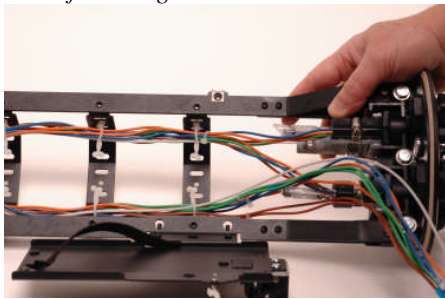

Figure 22
9.1.2 Open up the hinge tray storage plate and route all fiber bundles in a counter clockwise direction securing the bundles as you go using the twist loks supplied. Refer to Figure 22